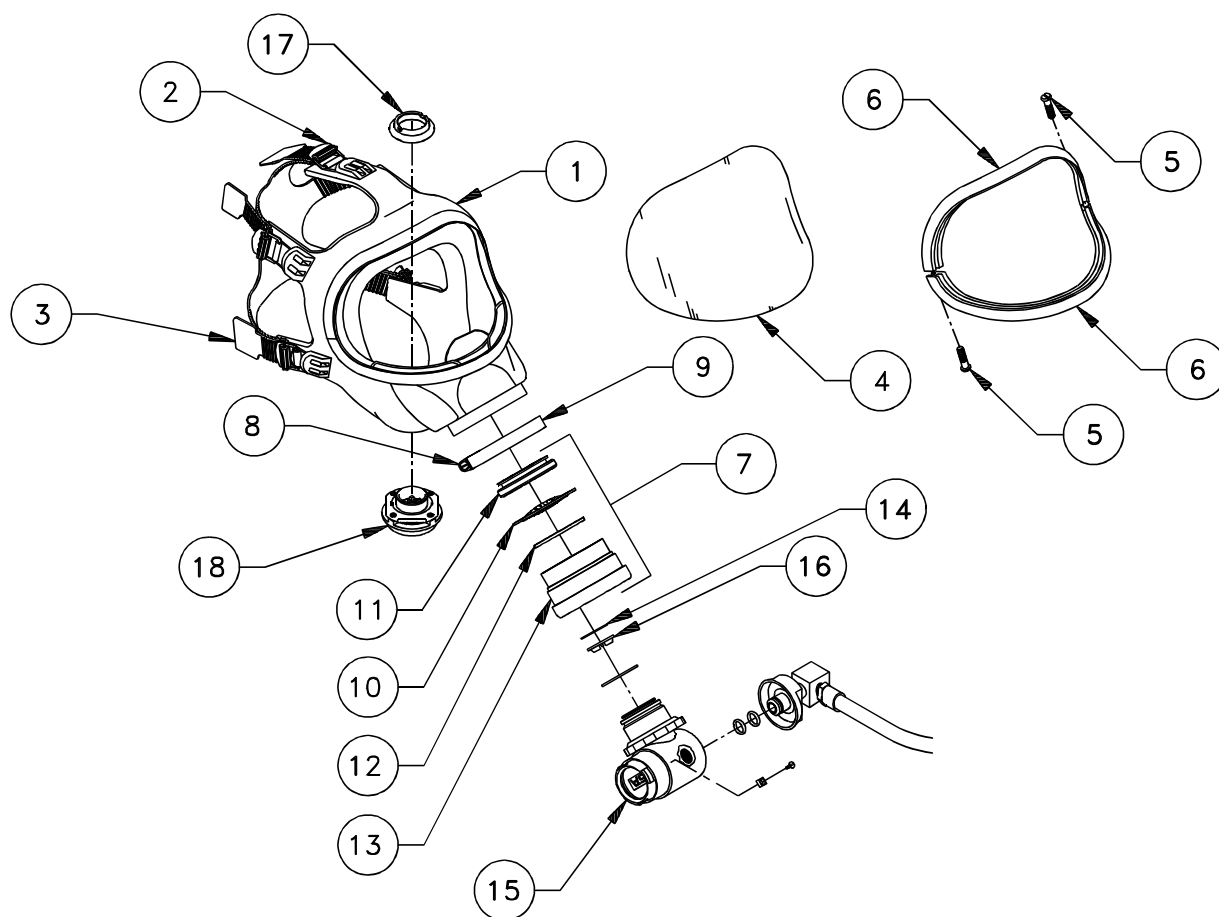

Figure 6-15. Facepiece and Components
### 6.7.2 Facepiece Rubber Head Harness Removal and Replacement (Figure 6-15).
### 6.7.3 Facepiece Lens and Ring Removal and Replacement (Figure 6-15).
### 6.7.4 Inlet Assembly and Speaking Diaphragm Removal and Replacement (Figure 6-15).
- (1) Place O-ring (12) in groove of speaking diaphragm housing (13).
- (2) Place speaking diaphragm (10) in housing (13) so that outer lip rests on O-ring (12).
- (3) Be sure that crimped side of speaking diaphragm (10) is facing toward you.
- (4) Replace retainer ring (11) and tighten using spanner wrench.
- (5) Don the facepiece and check face-to-facepiece seal following the procedures outlined in paragraph 6.7.1.
**6.7.5 Facepiece Inhalation Disk Valve Removal and Replacement (Figure 6-15).**
- (1) Press valve disk (14) onto pin in speaking diaphragm housing (13).
- (2) Carefully tuck all edges of disk (14) under housing lip.
- (3) Replace spider gasket (16) (tabs up) and press it on pin. Work the groove into place to stabilize gasket (16).
- (4) Screw MMR (15) on facepiece.
**6.7.6 Facepiece Exhalation Valve Removal and Replacement (Figure 6-15).**
### 6.7.8 Mask-Mounted (Second-Stage) Regulator (MMR) Removal and Replacement (Figure 6-15).